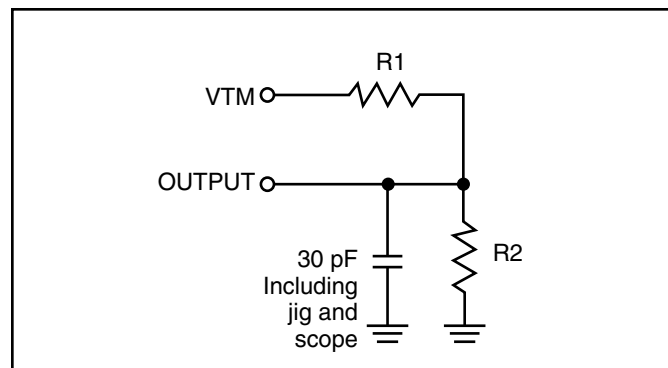

Figure 1
1. Test conditions assume signal transition times of 5 ns or less, timing reference levels of 0.9V/1.5V, input pulse levels of 0.4 to VDD-0.2V/VDD-0.3V and output loading specified in Figure 1.
1. Test conditions assume signal transition times of 5 ns or less, timing reference levels of 0.9V/1.5V, input pulse levels of 0.4V to VDD-0.2V/VDD-0.3V and output loading specified in Figure 1.